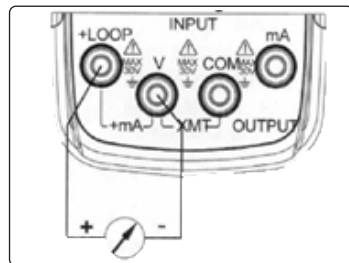

Figure 5-1
1) Insert one end of the test leads to the + mA - output jack (OUTPUT) of the Instrument and connect the other end with the input of the user's Instrument as shown in Figure 5-1:
1) Connect to the Instrument as shown in Figure 5-1;
3) Press the key (25%/RAMP) and th symbols 'r' and '▲' will appear.
6) Reprress the key (25%/RAMP) so as to exit the step current output.
3) Press the key (100%/START) and the symbols 'r' '▲' '0' 'FS' will appear in the display;
- 5) Repress the key (100%/START) so as to exit the step current output.
- 1) Connect as shown in Figure5-1;
- 4) Repress the key (25%/RAMP) again so as to change the type of the output ramp, which finds itself in the lower left of the LCD. The type appears with 'Λ S' 'Λ F'. in proper order. These symbols denote a low speed ramp and a high speed ramp respectively. The former is set to a cycle up to 60S and the latter is up to 30S, while the auto-stair step ramp pauses 5 seconds at each step;
- 5) Press the key (100%/START) to start the output of the set waveform when the symbol 'ON' appears, Now repress the key (100%/START) again and the output will pause on a current value and the symbol 'OFF' will appear. Then press the same key again and output will continue to do the set steps from the pause value. When the symbol 'OFF' appears, press any one of the keys (▲), (▼), (◀), (▶) so as to bring the output back to the 0% Then the value of 4mA appears in the display.